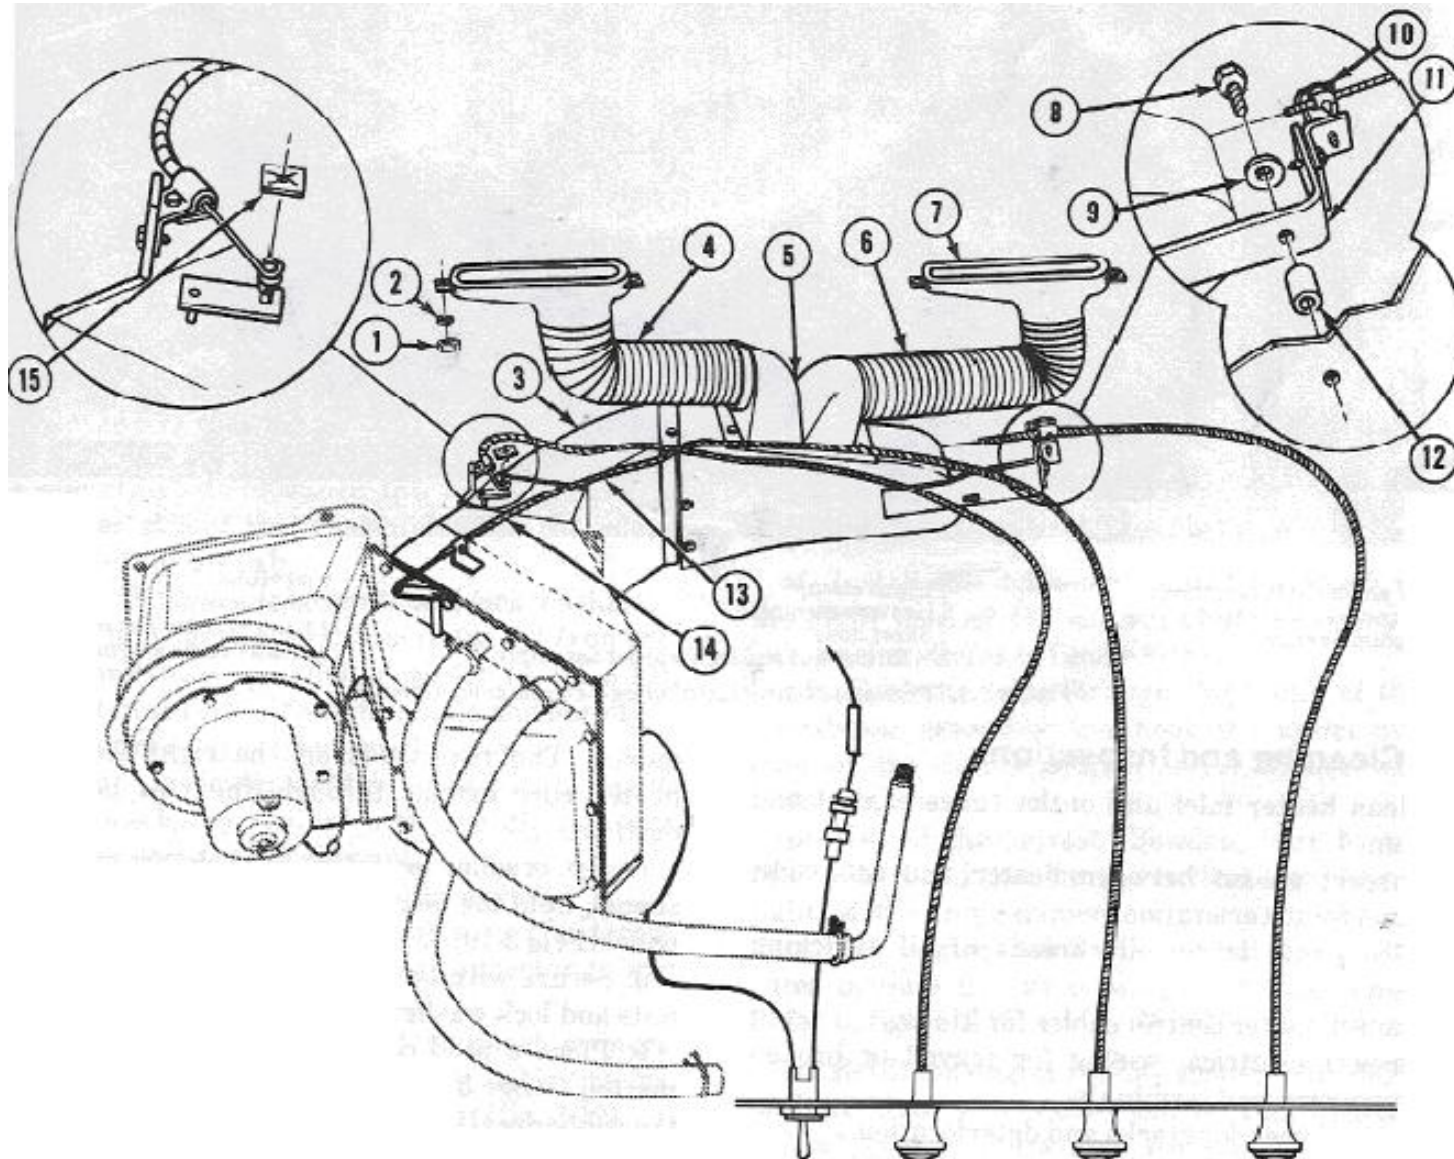

Figure 3-18. Fresh air heater and defroster installation
through the transition duct. From the transition duct heat passes into the heat distributor where it is distributed to the defroster nozzles or floor diffuser. The heater controls consist of mechanical linkage, an electrical switch and (Bowden) cables to control the air temperature, air volume and air distribution, respectively (fig. 3-18). Refer to the Operator's Manual, TM 9-2320-244-10 for an operational description and location of controls.
- ac. Install the fresh air control (Bowden) wire knob in the left hole of the heater control cluster using a nut and lock washer. Refer to figure 3-18.
- ae. Feed the (Bowden) wire through the clamp of the transition duct and hook the eyelet over the door lever stud. Secure the eyelet on the stud with the speed nut. Refer to figure 3-18.
- ag. Install the heat control (Bowden) wire in the center hole of the control cluster using nut and lock washer. Refer to figure 3-18.
- ak. Adjust the heat control (Bowden) wire by pushing the knob in and moving the control door lever towards the right side of the compartment. Tighten the wire clamp. Refer to figure 3-18.
- al. Install the defroster control (Bowden) wire in the right hole of the control cluster using nut and lock washer. Refer to figure 3-18.
- an. Adjust the defrost (Bowden) wire by pushing the knob in and moving the control lever toward the right of the compartment. Tighten the wire clamp. Test the heater controls making sure (Bowden) wires operate the air doors properly and smoothly. Refer to figure 3-18.